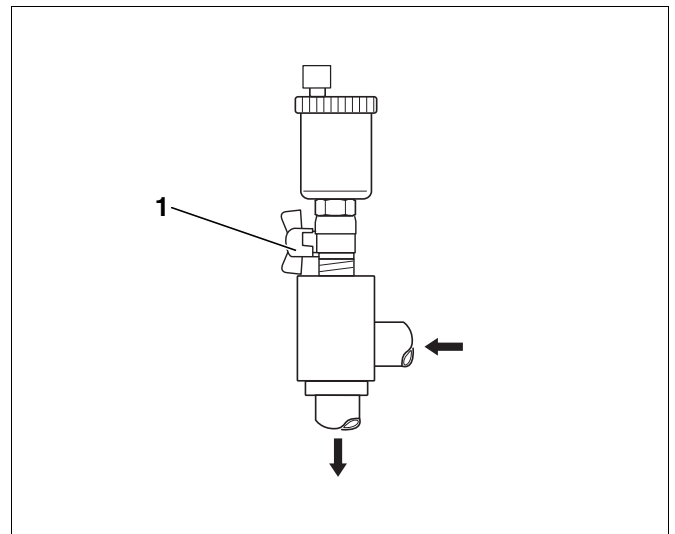

Fig. 17 Automatic air vent valve
- ▶ Close the ball valve (Fig. 17, **Item 1**) of the air vent valve after the venting process has been completed.